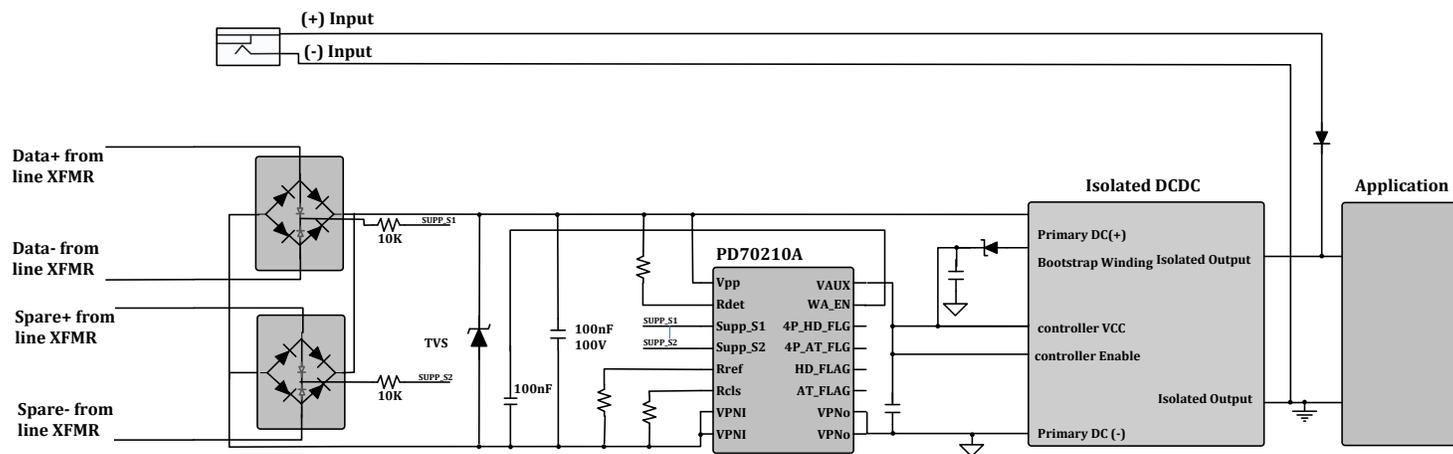

Figure 4: External Power Input connected to Application supply Rails
The Peripheral d devices are presented in Figure 4 and Figure 5.
PD applications utilizing PD70210A IC may be operated with an external power source (DC wall adaptor). There are two cases of providing power with an external source, the cases are presented in Figure 4 and Figure 5.
- 1) External source connected to application's low voltage supply rails. External source voltage level is dependent on DCDC output characteristics. Described in Figure 4